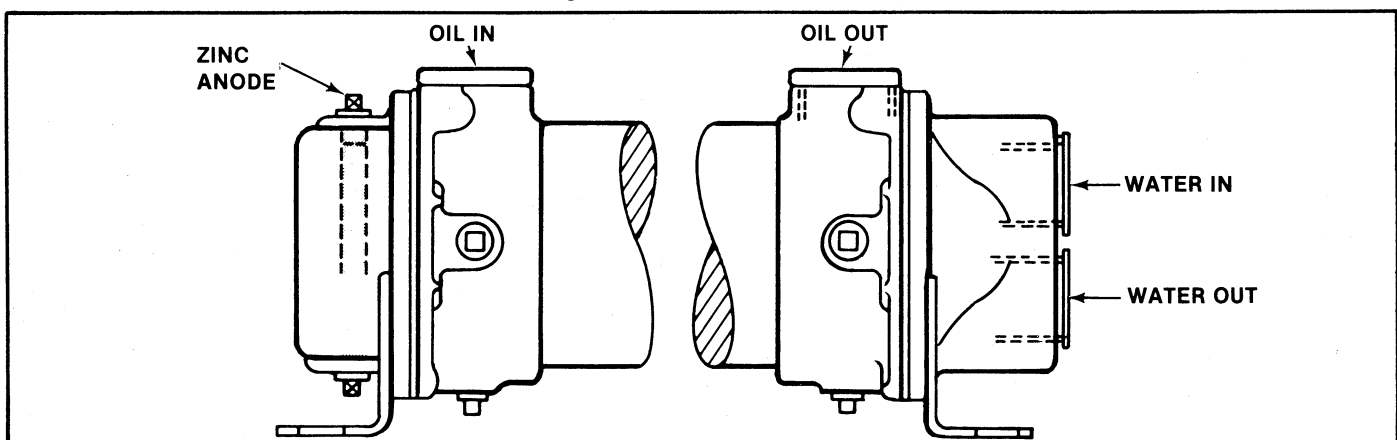

Figure 2-8. Typical Heat Exchanger Plumbing.
2. Heat exchangers furnished by Twin Disc, to be used for salt water applications, have zinc rods installed at the inlet and outlet heads. See Figure 2-8.